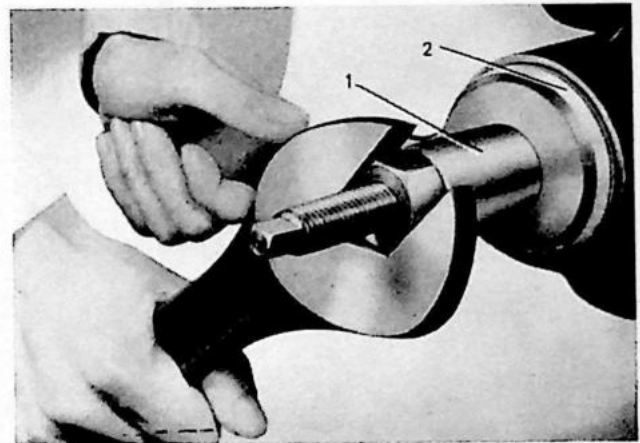
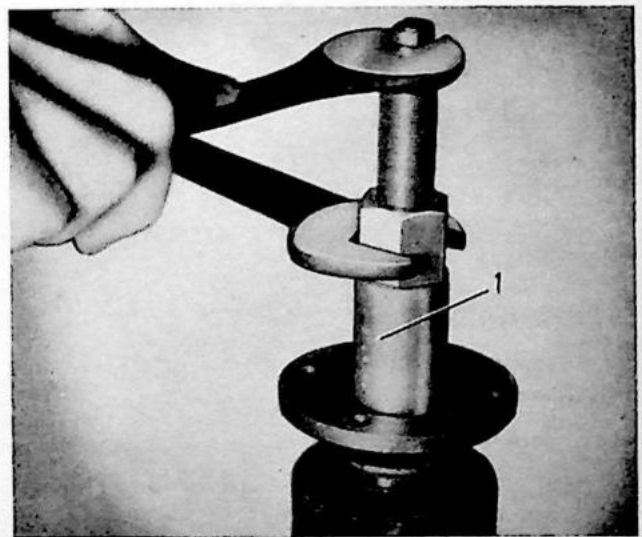

Fig. 7. Fitting sealing ring.
Fig. 8. Fitting flange.
3. Place in a new paper gasket and fit the new sealing ring with the SVO tool, fig. 7 (concerning SVO tool numbers for the different rear axles, see the tool list on page 22).
4. Press on the flange with SVO tool, see fig. 8.
5. Fit the differential with ring gear together with bearing races, caps (37) and adjusting nuts (34). Do not tighten the cap bolts (44) so hard that the adjusting nuts cannot be turned.
8. Fit flat washer (19) and sealing ring (20) with gasket. For the sealing ring, use press tools SVO 2304 and SVO 4049 respectively and wrench SVO 4061, see fig. 7. Then the flange is pressed on with the help of the press tool, see fig. 8. Fit washer (24) and nut (22), which should be tightened to the torque stated in the specifications.